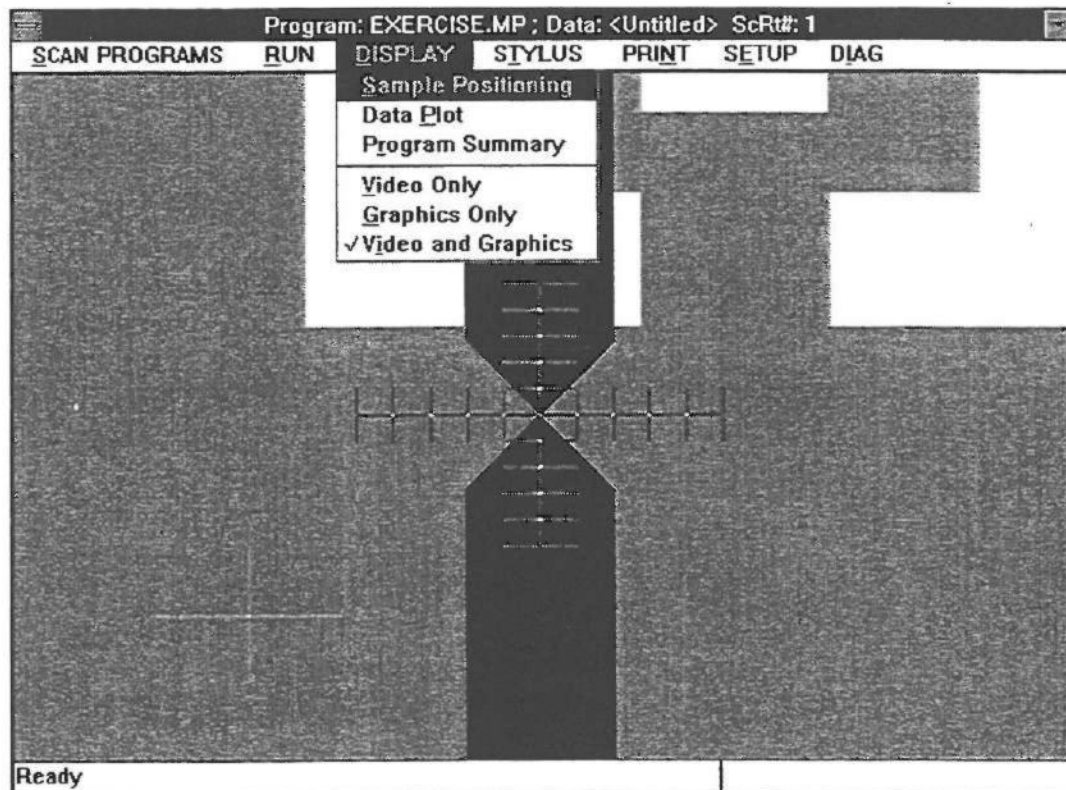

Figure 6 - 2 Calibration Standard Positioning for a Roughness Measurement
3. With the stage positioned as shown in Figure 6 - 2, click on the Run menu and choose RUN SINGLE SCAN. The current Scan Routine will be run.